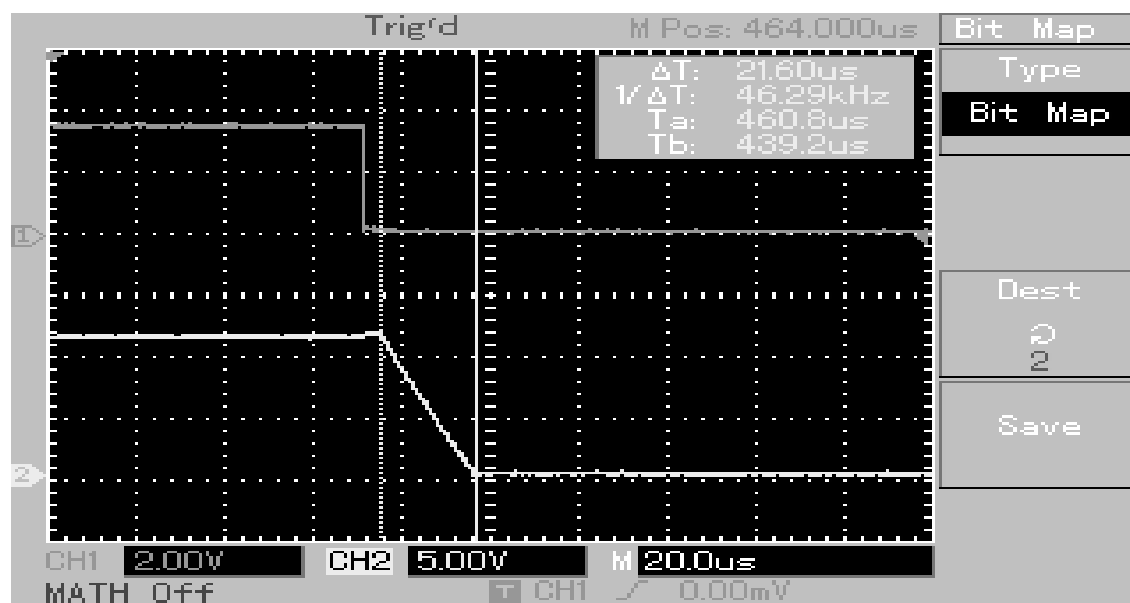

FIGURE-3.11
2. Observe the transition at VOUT of the 8 BIT MONOLITHIC DAC and measure the time required to change from output high to output low state. This will give the fall time of DAC0800 shown in FIGURE-3.11